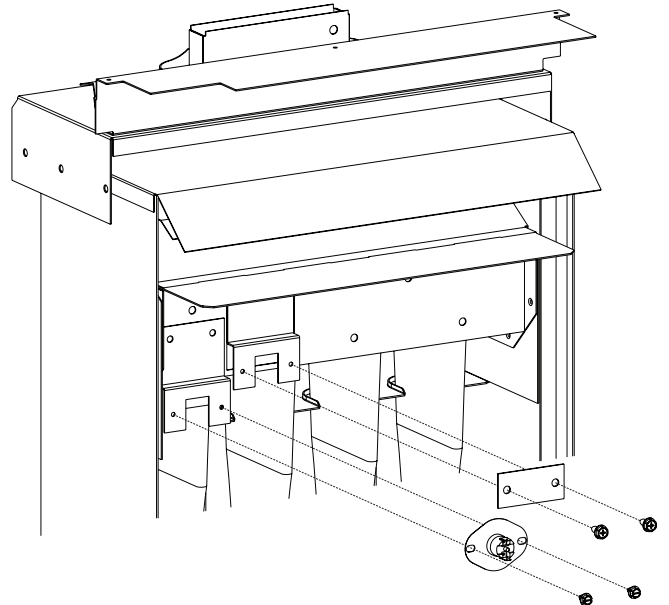

Figure 5
7. Attach the vent safety switch in the new location and attach the cover in the original location with (4) #8 x 1/4 inch screws. **See Figure 5.**